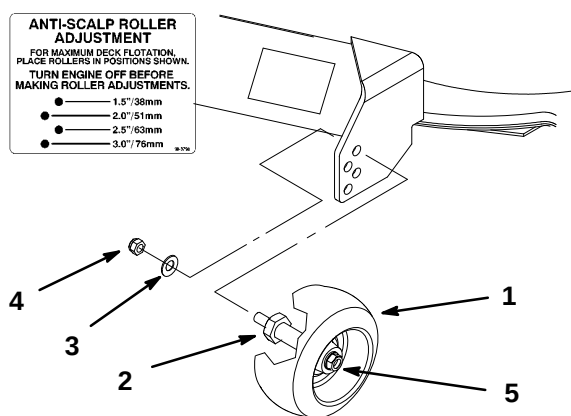

Figure 12
2. After adjusting height-of-cut remove flange nut and spring disk while holding stud with wrench (Fig. 12).
- Note:** Do not remove the wheel nut and washer (Fig. 12).
3. Select hole so gage wheel is positioned to the nearest corresponding height-of-cut desired (Fig. 12).
4. Reinstall the flange nut and spring disk (Fig. 12).